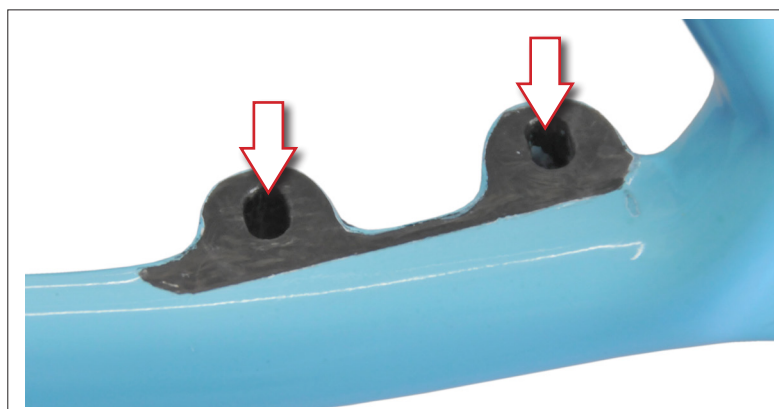

Fig.2
- Using the frame cutter tool make sure the calliper contact surface on the fork and the left-hand chain stay are perpendicular to the discs, grinding the chain stay if necessary in order to achieve this (Fig.2).